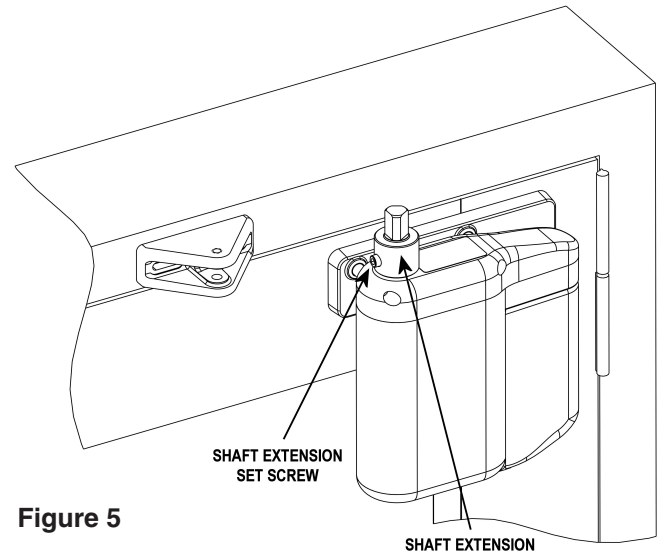

Figure 5
1. Refer to Figure 5, and **INSTALL** shaft extension onto operator shaft.